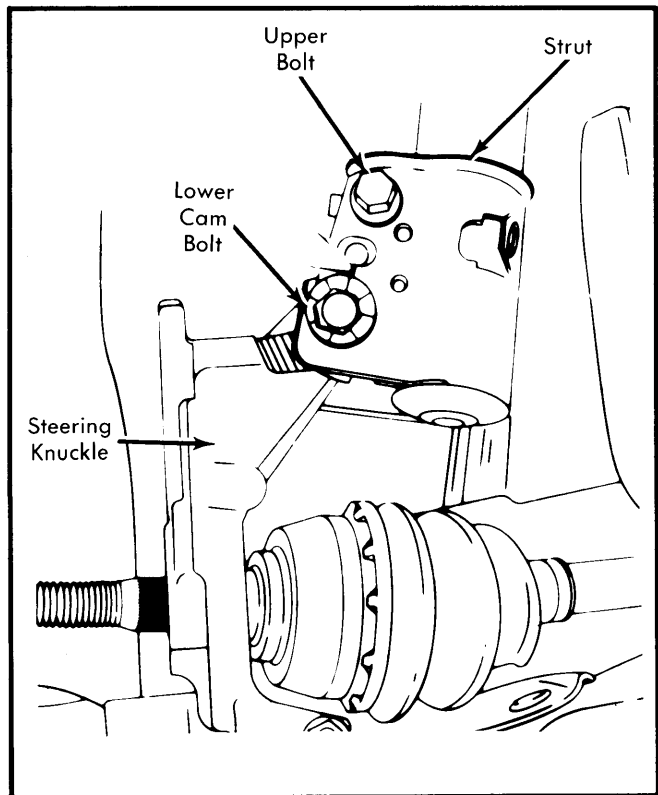

Fig. 35 Camber Adjustment (Phoenix)
**Phoenix** — To adjust camber, loosen upper and lower locking nuts on strut enough to allow steering knuckle to move. Turn cam (lower) bolt to specified camber. Ensure that cam is seated between inner and outer guide surfaces and tighten nuts. See Fig. 35.